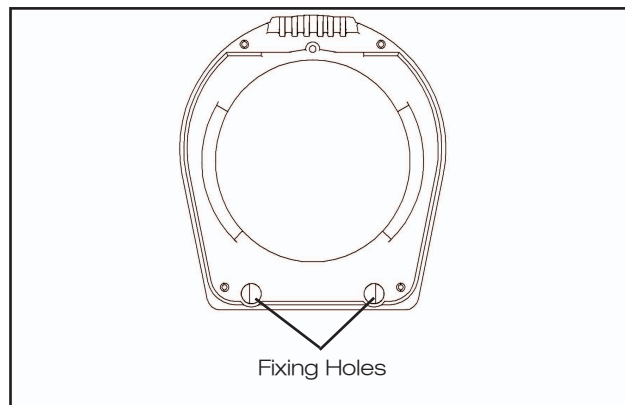

Fig.5 View Of Mounting Positions (Ommiting The Handle)
4. Open handle and mark the position of the 2 fixing screw holes on the bulkhead (see fig.5).
2. Remove pump from bulkhead by removing mounting screws and disconnecting mounting wedge (see fig 5).